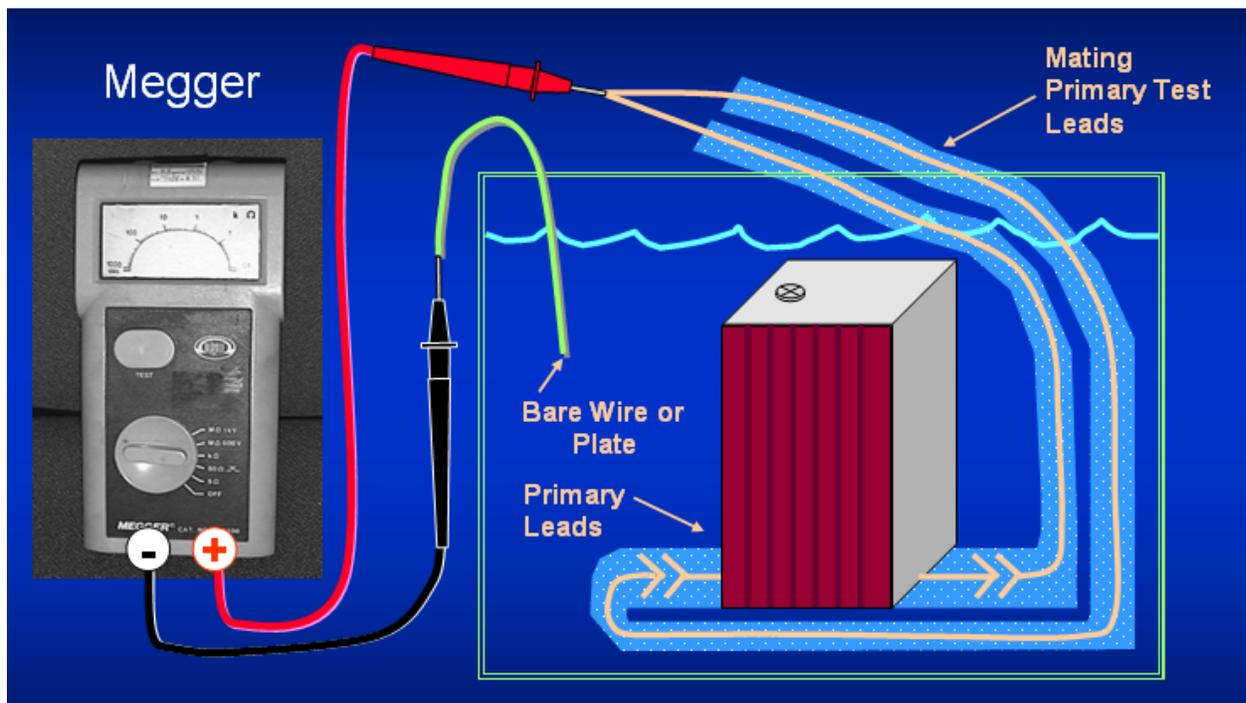

Figure 4. FLA Field Insulation Resistance Check
- See Figure 4. Connect the FLA to some mating cordsets and drop the FLA in a bucket of water. Connect the positive (red) terminal of a meg-ohm meter to the cordset leads. Put the negative (black) terminal of the meg-ohm meter in contact with the water. This is typically done by attaching a wire to a metal plate and dropping the metal plate in the water. Bring the attached wire out of the water and connect it to the negative terminal of the meg-ohm meter. Meg the FLA at 1000VDC for 1 minute. At the end of 1 minute, the insulation resistance should be greater than 2G ohms. If the resistance is less than 2G ohms, replace the FLA.